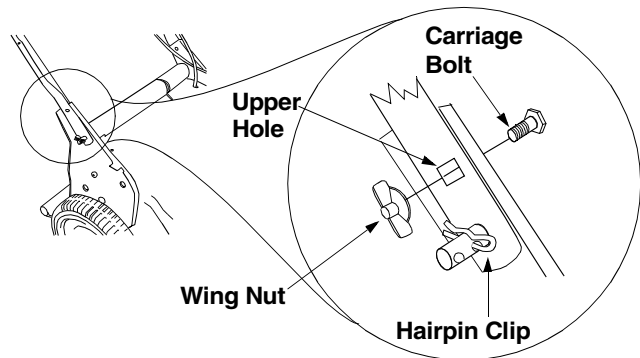

Figure 3
- Place each carriage bolt (found in the hardware pack included with your unit) in the upper hole of the handle mounting bracket from the inside out. Secure with the plastic wing nut. See Figure 3. Repeat on the other side.